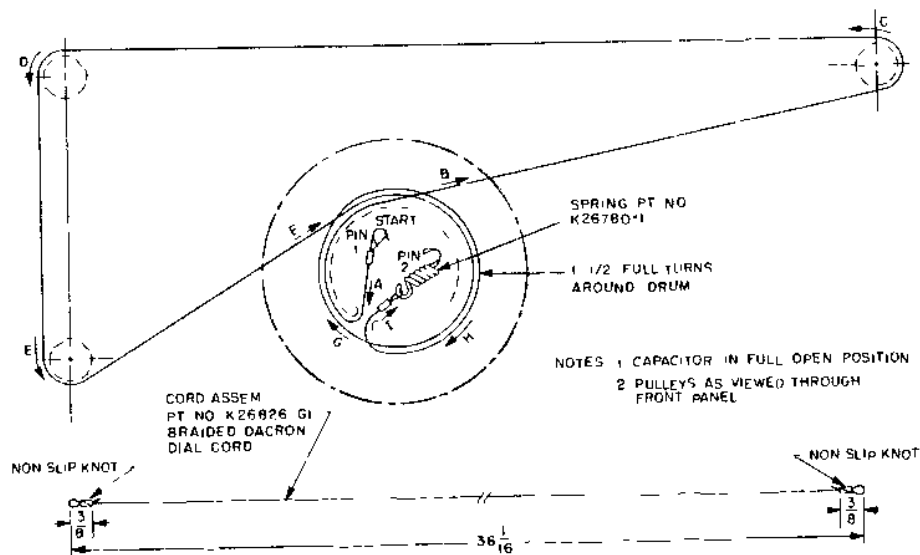

Figure 10. Restringing the Dial Pointer Mechanism
5. Place the loop end of the dial pointer cable over pin 1 on the dial drive drum. Following the lettered sequence shown in figure 10, string the dial pointer cord and anchor the spring over pin 2 on the dial drive drum.